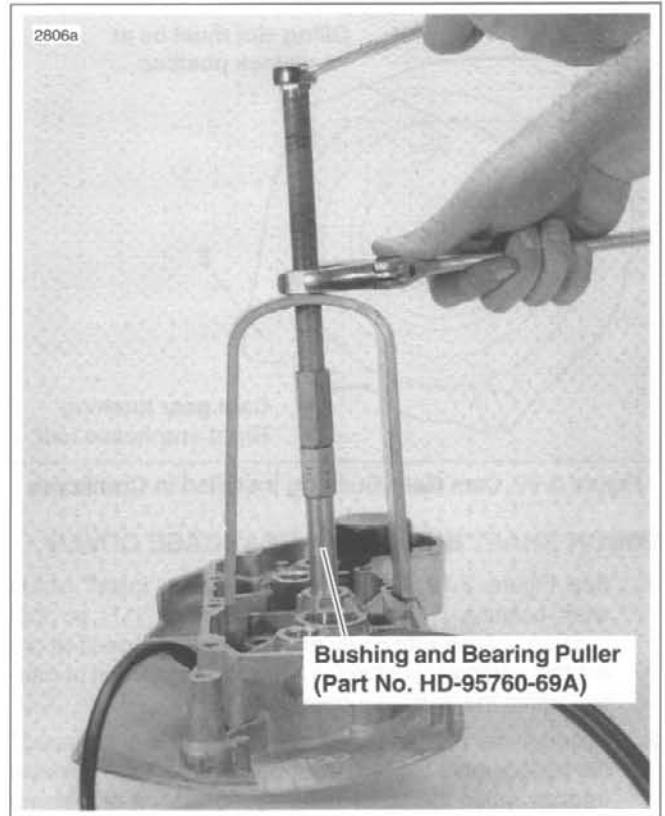

Figure 3-83. Removing Bushing
- See Figure 3-83. Use a BUSHING AND BEARING PULLER (Part No. HD-95760-69A) to remove bushings from gearcase cover and crankcase.